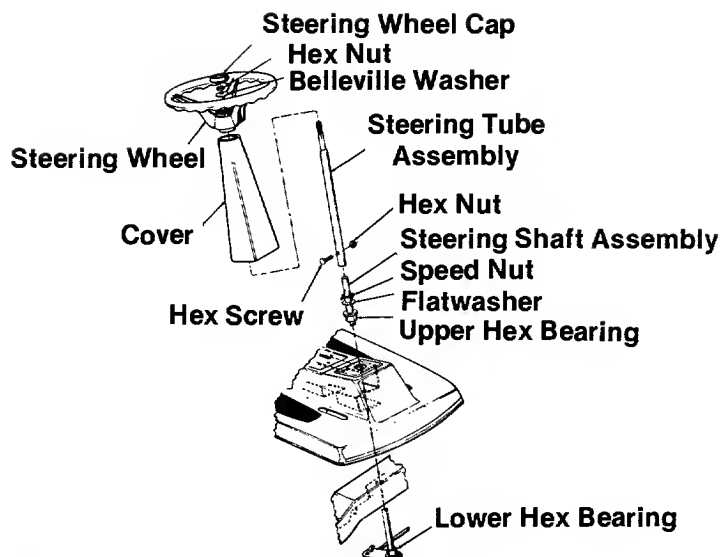

FIGURE 1. STEERING ASSEMBLY
STEERING WHEEL ASSEMBLY See figures 1, 2 and 3.
1. Check the upper and lower hex bearings, be sure they are seated and in position. See figure 1.
6. Place the steering wheel on the tubing assembly and fasten with belleville washer and hex nut. See figure 1.